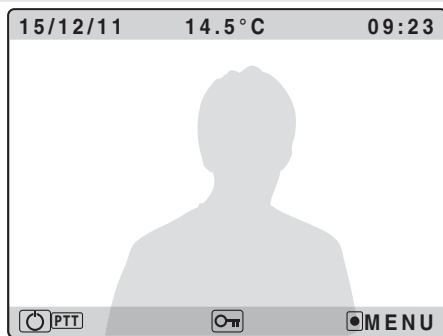

Fig.3
During the conversation Fig.3:
3. As shown in figure 3*, once the wires are connected, fix the videophone to the flush mounting box using a Phillips screwdriver and the two screws provided.